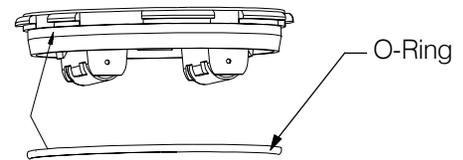

Figure 5
4. As noted in Figure 5, re-install o-ring on electronics module. Press module gently down into meter cover.